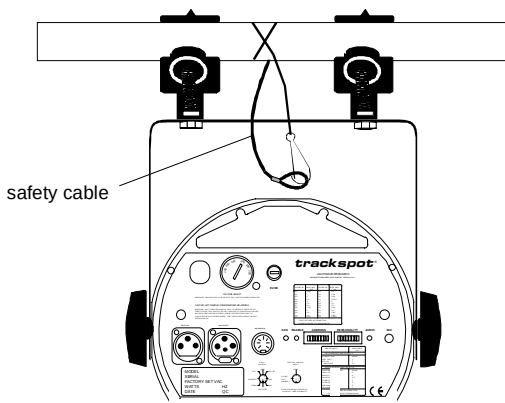

Figure 2-4. Attaching a safety cable to the mounted fixture
6. Loop one or more suitable safety cables around the support and the top of the yoke (see Figure 2-4). The safety cable(s) can be looped one or more times around the truss or support.